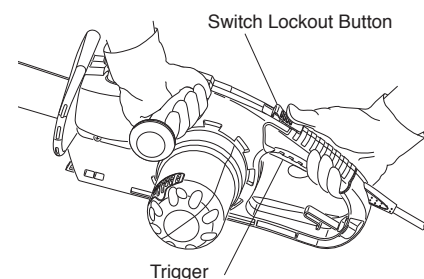

Figure 12 - Lockout Button and Trigger Location
3. Use both hands to grip saw. Always use left hand to grip front handle and right hand to grip rear handle. Use firm grip. Thumbs and fingers must wrap around saw handles (see Figure 12).
5. When ready to make a cut, push the lockout button completely forward with the right thumb and squeeze the trigger (see Figure 12). This will turn saw on. Releasing trigger will turn saw off. Make sure saw is running at full speed before starting a cut.